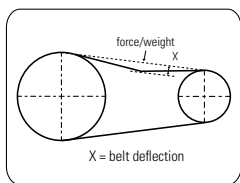

FIGURE 8.4
- D. Inspect transmission belts and electric motor. To check, remove the belt guard. After inspection, mount the guard with fixing screws (Figure 8.4 and 8.5). Replace belts whenever necessary.